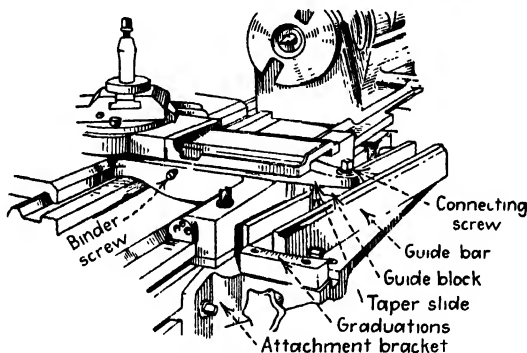

Fig. 16-6. Taper attachment. The taper slide acts also as the connection. See Fig. 16-9
Introduction. The taper attachment (Fig. 16-6) has many features of especial value among which are the following: (1) The
Fig. 16-9. The taper slide *D* is provided between the cross slide *B* and the saddle *F*. When the taper attachment is not being used, *D* is tightened by the binder screw *E*, and the cross slide *B*, when fed either in or out, moves on *D* as a base. When the binder screw is loosened, the unit, comprising *A*, *B*, *C*, and *D*, is free to move on the saddle *F* as a base. In this design, the taper slide *D* serves also as a connection (see Fig. 16-6), and when fastened to the guide block, it is no longer free, but is controlled by the movement of the guide. The cross-feed screw *C* serves equally well whether or not the taper attachment is being used.